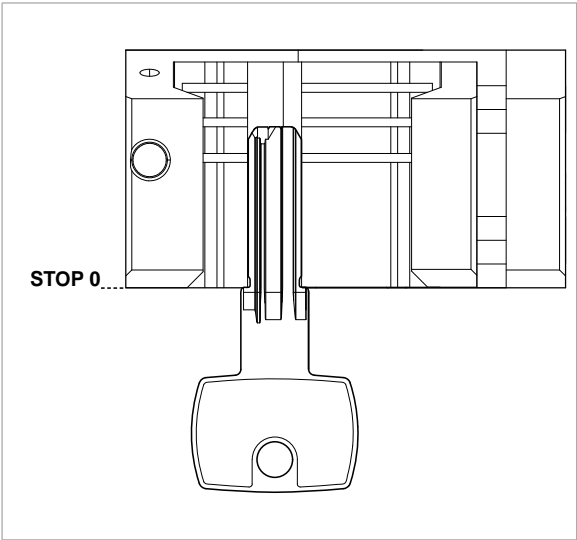
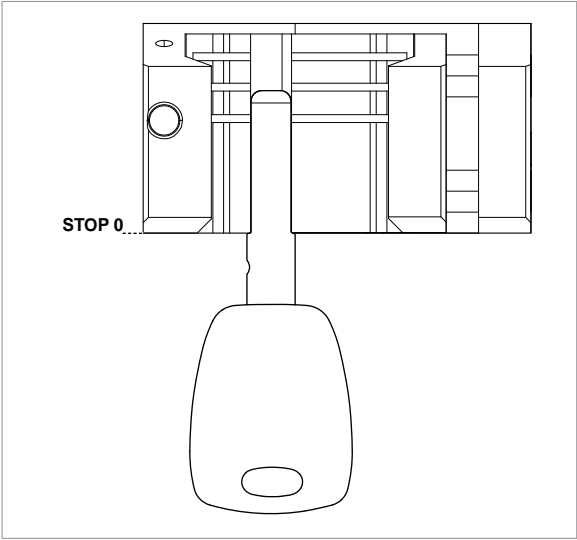

Fig. 36
Fig. 38
- keys fitted with a STOP must be positioned against the jaws (STOP "0") (Fig. 36 and Fig. 38).